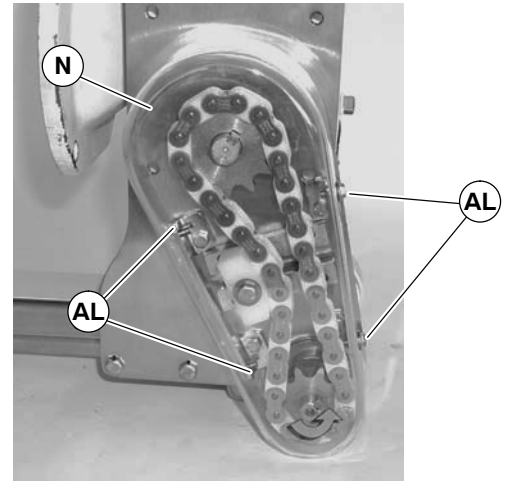

Figure 16
NOTE: Do not over-tighten screws (AL of Figure 16).
5. Install cover (N of Figure 16) and tighten four screws (AL) to 35 in-lb (4 Nm).